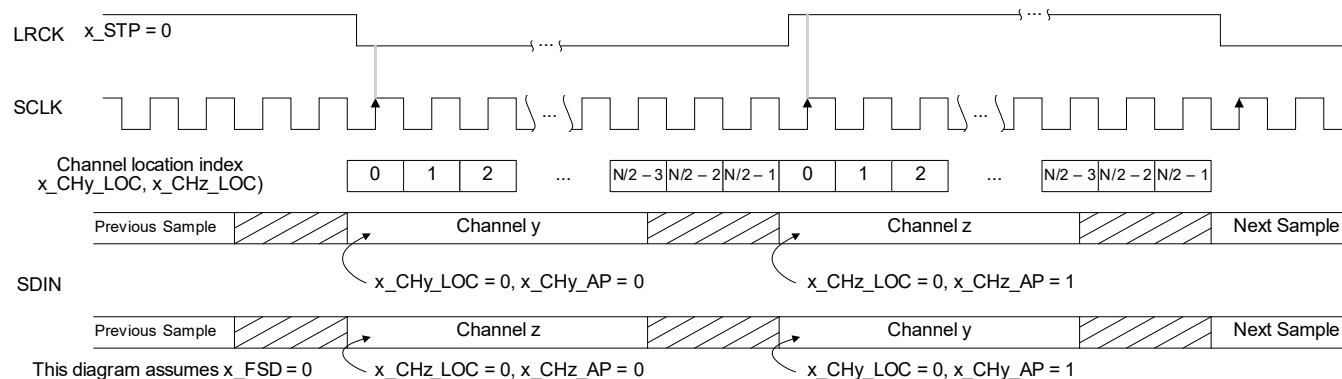

Figure 4-21. Example 50/50 Mode (ASP_STP = 0)
- If ASP_STP = 0, the frame begins when LRCK/FSYNC transitions from high to low. See Fig. 4-21.